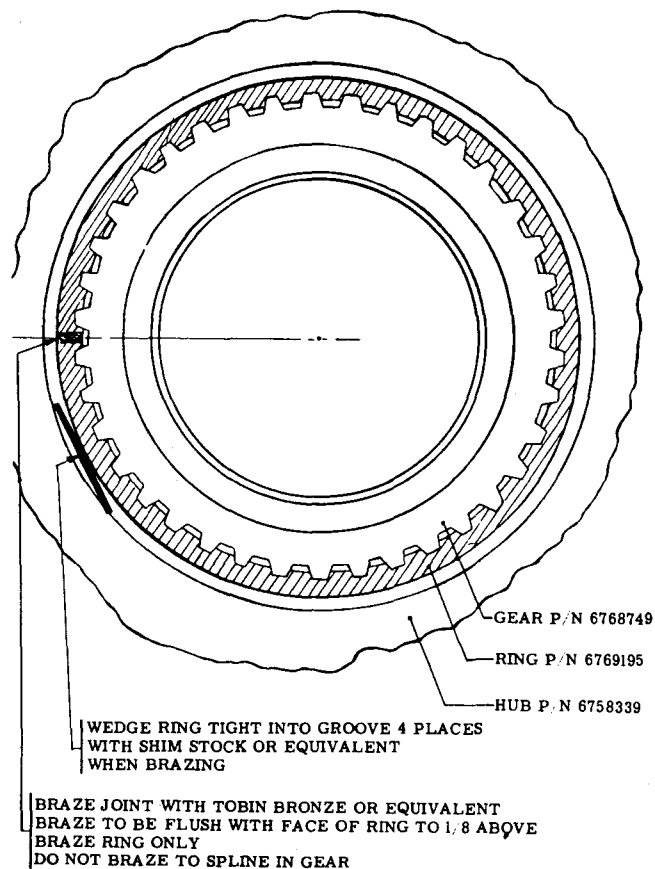

Fig. 6-12. Braze instructions for splitter sun gear snapping
(1) Install ball bearing assembly 19 into sun gear 23. Retain it with snapping 18.
(2) Install sun gear 23, grooved end first, into the hubbed side of hub 22.
(3) Install snapping 21 and wedge it into its groove. Braze it as shown in figure 6-12.